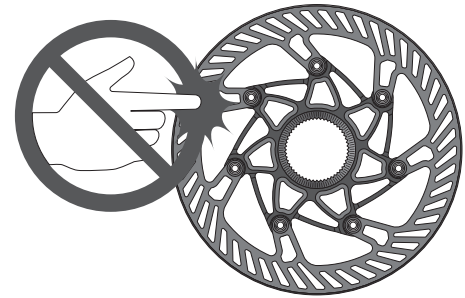

Fig.1
- Never touch the disc brake rotor, even when the bicycle is stationary. The rotor itself may be very hot, and could cause serious burns. You are also reminded to take great care when the bicycle is moving, as the rotor is sharp and could cause serious injury to the fingers if inserted into the rotor openings while in motion (Fig.1).